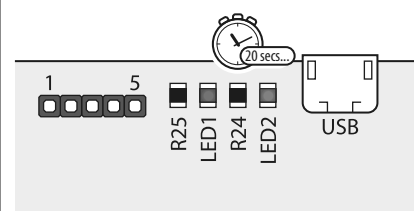

Fig. 44
5. After approximately 10 - 12 seconds both the red LED (LED1) and the green LED (LED2) will switch **ON** for approximately 20 seconds or so, as shown in **Fig.44**.